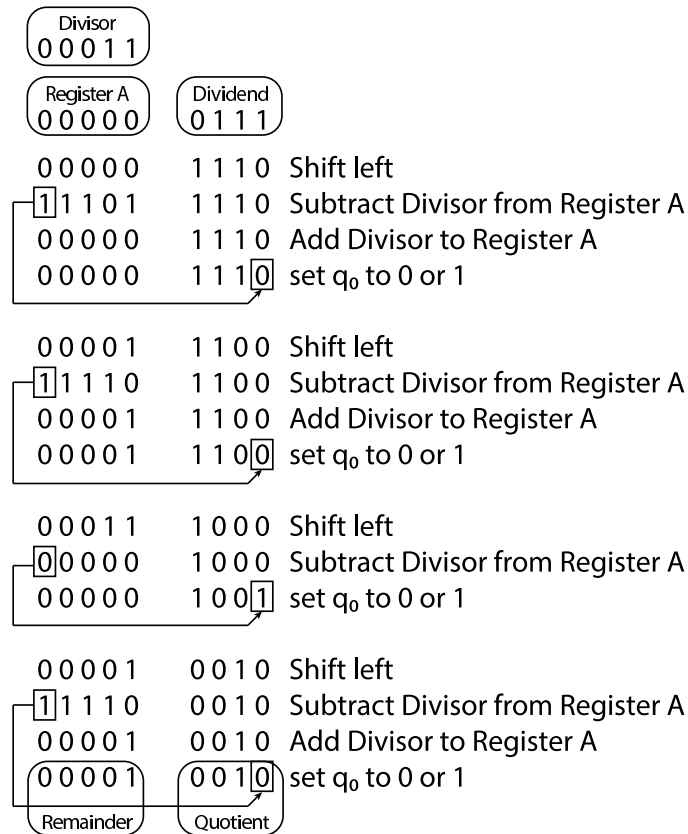
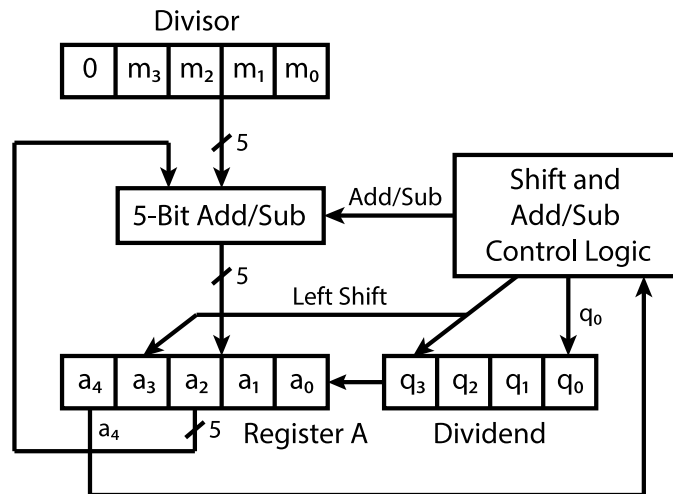

Figure 5: An example showing how the restoring divider works.
Figure 6: Block diagram of restoring divider.
Figure 5 shows an example of how the restoring divider works. This mimics what you do when you do long division by hand. In this specific example, number 7 (*Dividend*) is divided by number 3 (*Divisor*). The restoring divider starts with *Register A* set to 0. The *Dividend* is shifted left and the bit shifted out of the left most bit of the *Dividend* (called the most significant bit or MSB) is shifted into the least significant bit (LSB) of *Register A* as shown in Figure 6.
1. Draw a schematic for the datapath of your circuit. It will be similar to Figure 6. You should show how you will initialize the registers, where the outputs are taken, and include all the control signals that you require. Do not forget the clock and resets. **(PRELAB)**
2. Draw the state diagram to control your datapath. Check it by hand simulating the example shown in Figure 5. Hand simulation just means to work through the steps using your schematic and state diagram to check whether you can do the required operations before going through the effort of setting up the simulator. This may not catch all bugs, but it is a good step to make sure you have a design that has a chance of working. **(PRELAB)**
6. Simulate your circuit with ModelSim for a variety of input settings, ensuring the output waveforms are correct. Start with Figure 5 as an example because it shows you all the steps with the values that should be in the registers at each step. **(PRELAB)**